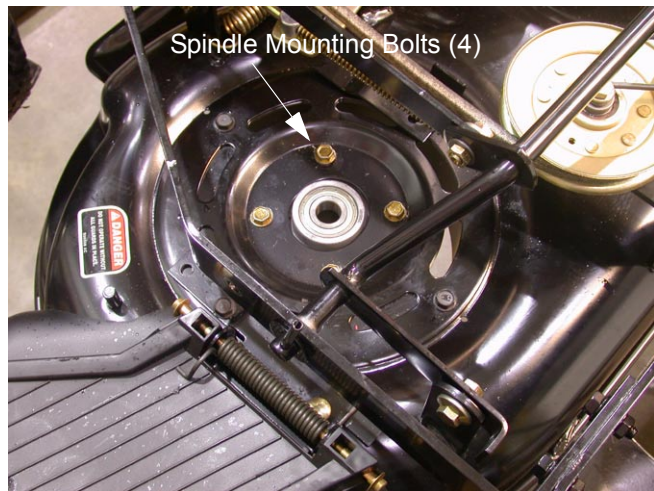

Figure 40
12.8. Using a ½ inch socket remove the four mounting bolts securing the spindle to the deck. See Figure 40.